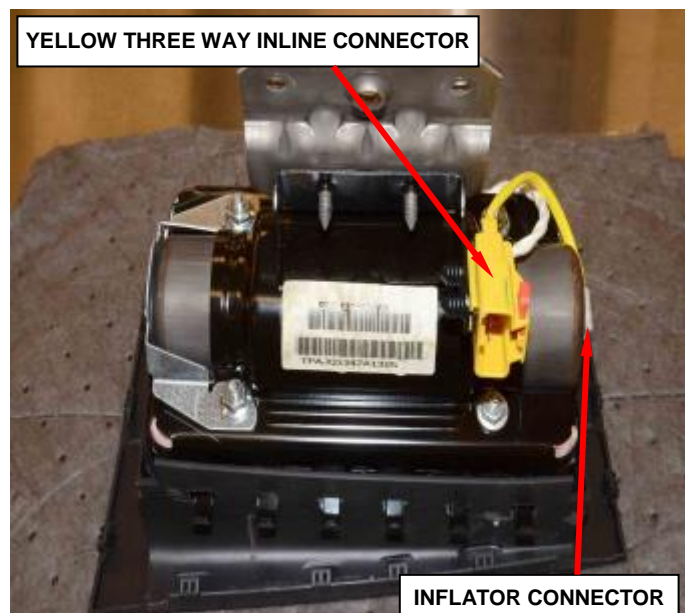

Figure 121 – Inflator Connectors
- c. Disconnect the single yellow wire inflator connector from the end of the inflator using pliers (Figure 121).
- d. Remove the yellow three way inline connector from the housing bracket (Figure 121).